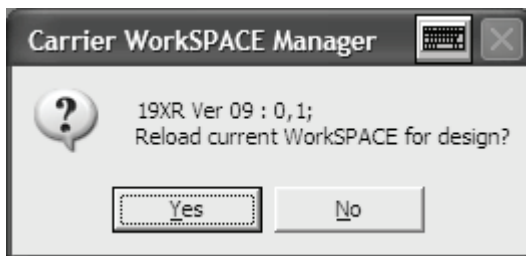

Fig. 18 — Reload Prompt
18. The prompt “Reload current WorkSPACE for design?” will be received. Press the “Yes” button. (Fig. 18).